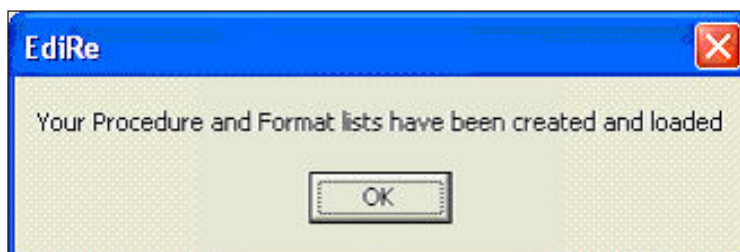

Figure 5: This message is displayed when your processing and format list have been successfully created.
- Click OK, as shown in Figure 5.